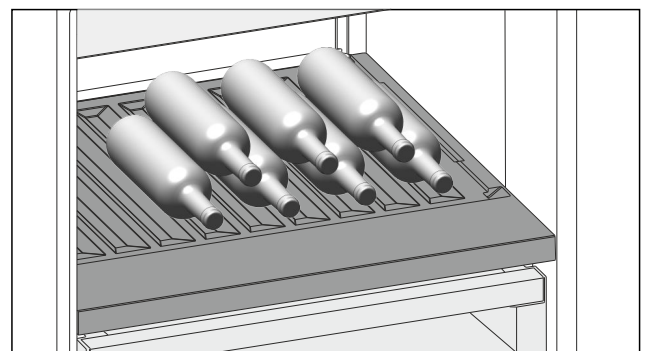

Fig. 123 Example illustration
- Place bottles in the back row with their bases against the back wall. (see Fig. 123)